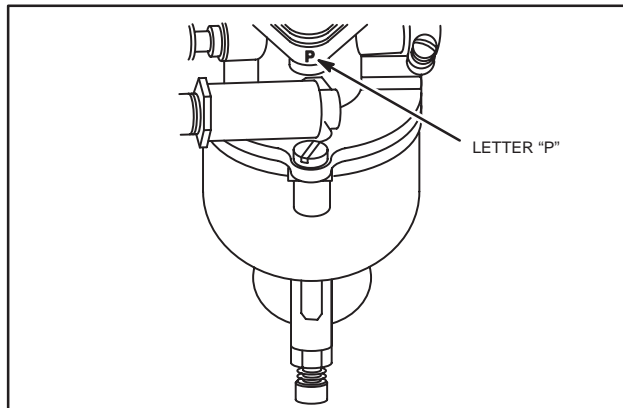

Fig. 277 – FLANGE MARKING, FUEL PUMP
**NOTE:** If engine is equipped with a fuel pump, install repair kit Part #394683, Fig. 277.